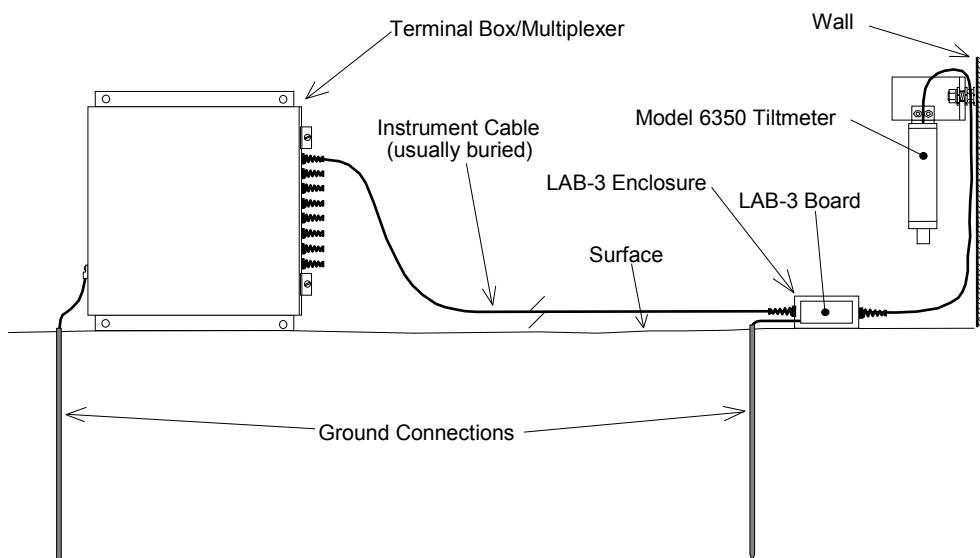

Figure 8 - Lightning Protection Scheme
- Lightning arrestor boards and enclosures are available from Geokon that install near the instrument. The enclosure has a removable top to allow the customer to service the components or replace the board if the unit is damaged by a lightning strike. A connection is made between this enclosure and earth ground to facilitate the passing of transients away from the gauge. See Figure 8. Consult the factory for additional information on these or alternate lightning protection schemes.